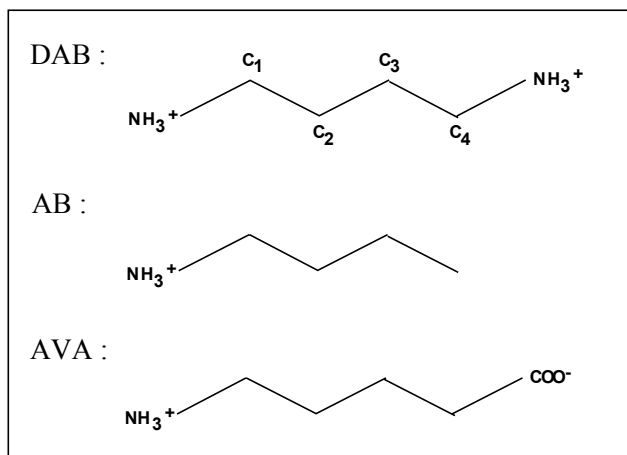

Figure 1: The model system molecules: 1,4-diamino-butane (putrescine, DAB), Amino-valeric acid (AVA) and amino-butane (AB).
The model system chosen for this lab is a pair of double ionized molecules, putrescine (1,4-diamino-butane or DAB) and 5-amino-valeric acid (AVA), and the related singly charged compound amino-butane (AB) that lacks one of the terminal carboxy or amino groups (see Figure 1). This system was suggested by Brady and Sharp [ref. 5]. Since the focus is on exemplifying the method, the extended atom representation (CHARMM-19) is used and the two charged groups (NH_3^+ and COO^-) are defined as united atoms (with appropriate mass and charge (see the topology file *data/topo.inp*). In addition bond lengths and bond angles are also held fixed (at 1.54 Å and 109.4° respectively). As a result, the bonded interactions in this model system are defined solely by three torsion angles around the C1-C2, C2-C3 and C3-C4 bonds. The dynamics of the system is defined by these interactions and by the non-bonded interactions (or lack thereof in AB) between the two terminal functional groups. This model system is in vacuum.